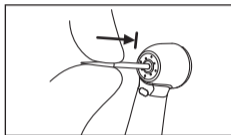

Fig. 8
- 1 Insert the bur into the chuck (Fig. 8).